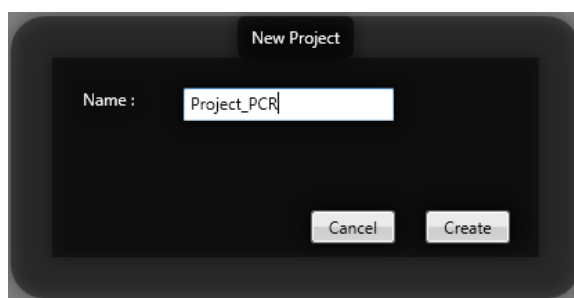

Figure 14: Window « New Project »
- A window appears allowing the user to enter the name of your protocol (Figure 14),